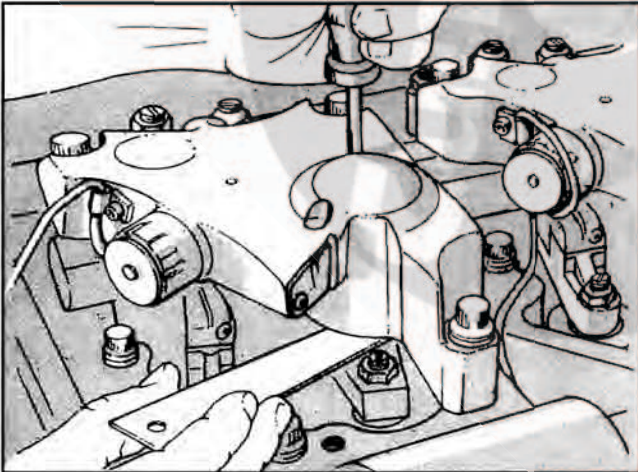

Fig. 2-28, (OM1063L). Adjusting crosshead to slave piston clearance
9. If Jacobs Brake is used, use 3375012 (0.018 inch [0.46 mm] thick) Feeler Gauge and 3375008 Torque Wrench Extension, set the exhaust valve crosshead to Jacobs Brake slave piston clearance, Fig. 2-28.